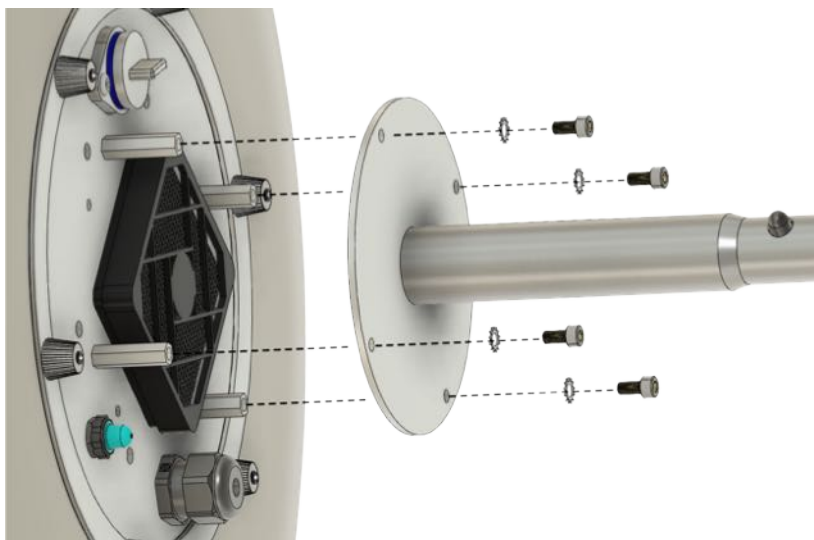

Abb. 10
1. Loosen the tripod mount by removing the 4 hexagon socket screws (Fig. 10).